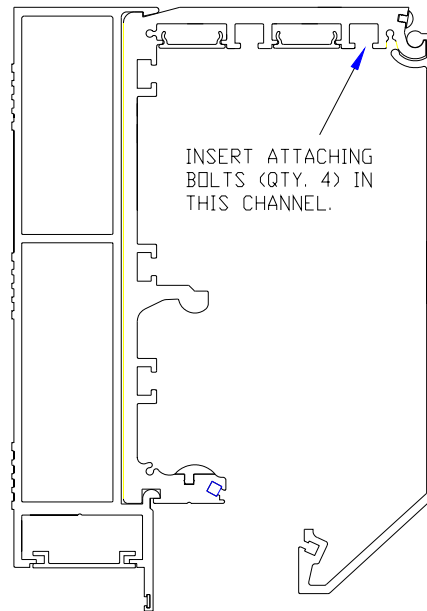

Figure 2: Header Extrusion Channel
2. Using a drill or chisel, create an entry point in the header extrusion channel (Figure 2) for the attaching bolts.